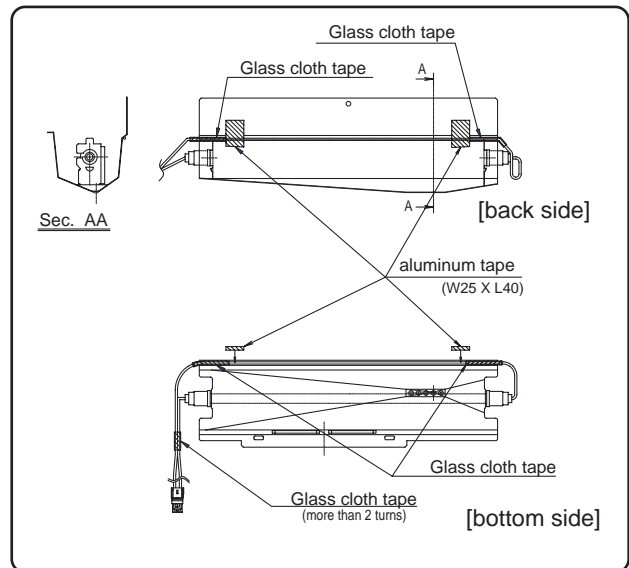

Fig. A-25
(2)-7. Stick the longer wire to the Drain support by aluminum tape (2 pieces), and wind vinyl tape (2 pieces) to lead wires of Def. heater ass'y by aluminum tape as shown in Fig. A-25.